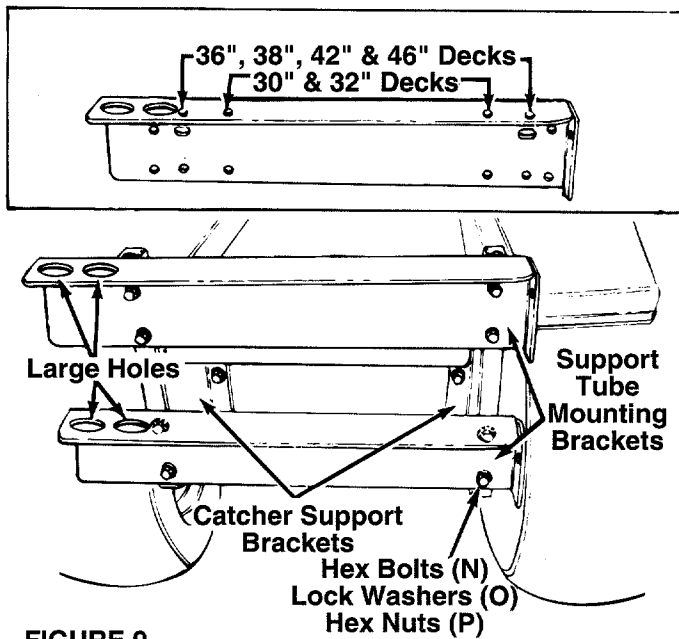

FIGURE 9.
- a. Examine the illustration in figure 9 to determine which holes in the support tube mounting brackets to use for your unit.
- b. Place the support tube mounting brackets in position against the support brackets. See figure 9. The large holes in the support tube mounting brackets go to the left side of the unit. The flange in the brackets go toward the top.
- c. Secure with hex bolts (N), lock washers (O) and hex nuts (P), finger tight only. After all eight hex bolts and nuts are assembled, then tighten securely.